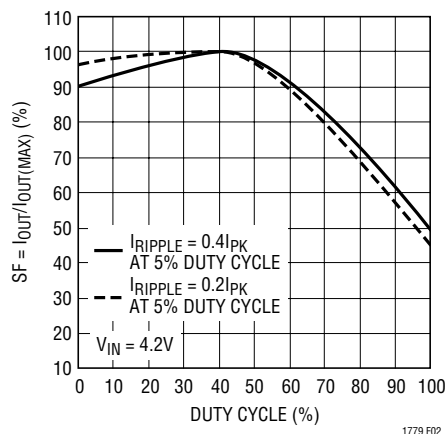
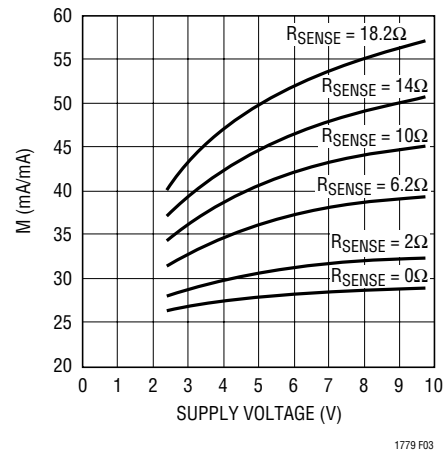
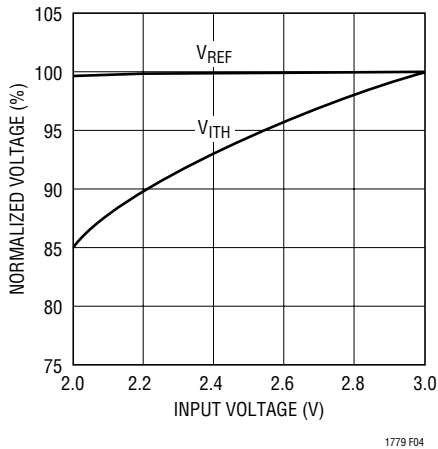

Figure 2. Maximum Output Current vs Duty Cycle
Figure 3. M vs Supply Voltage
Figure 4. Line Regulation of  $V_{REF}$  and  $V_{ITH}$
**Note 6:** Peak current sense voltage is reduced dependent upon duty cycle to a percentage of value as given in Figure 2.
when the LTC1779 is operating below 40% duty cycle. However, once the duty cycle exceeds 40%, slope compensation begins and effectively reduces the peak inductor current. The amount of reduction is given by the curves in Figure 2.
The variable M is the ratio of the total switch current to that portion of the switch current that flows through RSENSE. M is a function of both RSENSE and ROUT of the internal power switch, which in turn, is a strong function of supply voltage. For values of M refer to Figure 3. In order to guarantee the desired IPK over the full range of supply voltage, the minimum value of M, corresponding to the minimum supply voltage seen in the application, should be chosen. Note that the selection of RSENSE, and hence the resulting M, is an iterative process. For most applications, a value of RSENSE between 0Ω and 20Ω will be chosen.
where SF and M are as defined in the previous section, Figures 2 and 3. Typically,  $R_{SENSE}$  is chosen between  $0\Omega$  and  $20\Omega$ . Current limit is at a minimum at minimum input voltage and maximum at maximum input voltage. Both conditions should be considered in a design where current limit is important.
Choose the slope factor, SF, from Figure 2 based on the duty cycle. The ripple current calculated at minimum input voltage and the chosen L should be used in the current limit equation (see Inductor Value Calculation). Figure 3 provides several values of  $R_{SENSE}$  and their corresponding M values at different input voltages. Select the minimum input voltage and calculate the resulting minimum current limit settings.
Although the LTC1779 can function down to approximately 2.0V, the maximum allowable output current is reduced when  $V_{IN}$  decreases below 3V. Figure 3 shows the amount of change as the supply is reduced down to 2V. Also shown in Figure 4 is the effect of  $V_{IN}$  on  $V_{REF}$  as  $V_{IN}$  goes below 2.3V.